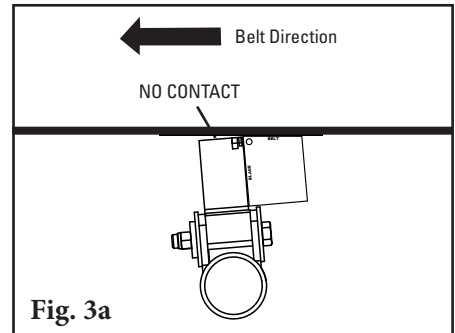
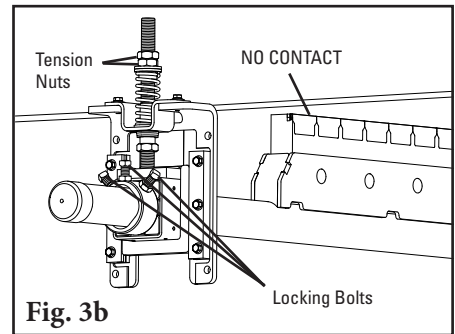

Fig. 3a
Fig. 3b
- Set the blade angle.** Center the pole/blades on the belt. Rotate the pole until the blade lays back 5° using the setup gauge provided (Fig. 3a). Tighten the three locking bolts on each torsion pole mount to lock the pole in place. Best practice is to first tighten the middle bolt before tightening the outer bolts to ensure everything is secure (Fig. 3b). There should be no blade-to-belt contact while locking the pole in the correct position. If contact occurs, double-check the dimension from Step 1.